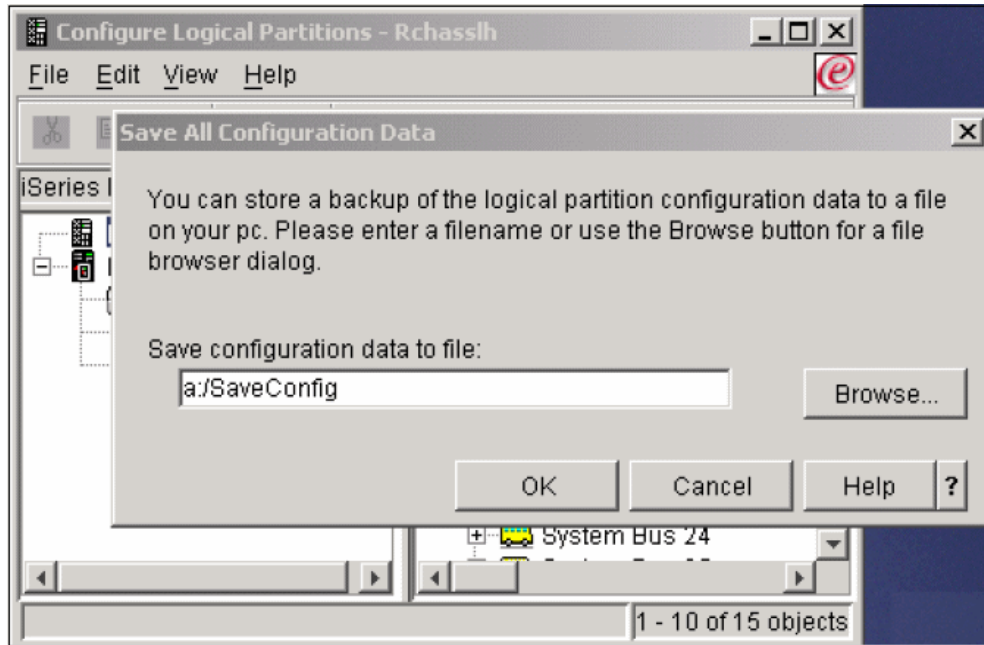

Figure C-6 System i Navigator Save Configuration Data Panel
- f. Enter a file name as shown in Figure C-6. The file should have been created prior to this step. You can browse for the file name as well. Click **OK**. The file is saved to the media of your choice. We recommend CD or diskette. The HMC uses either media.